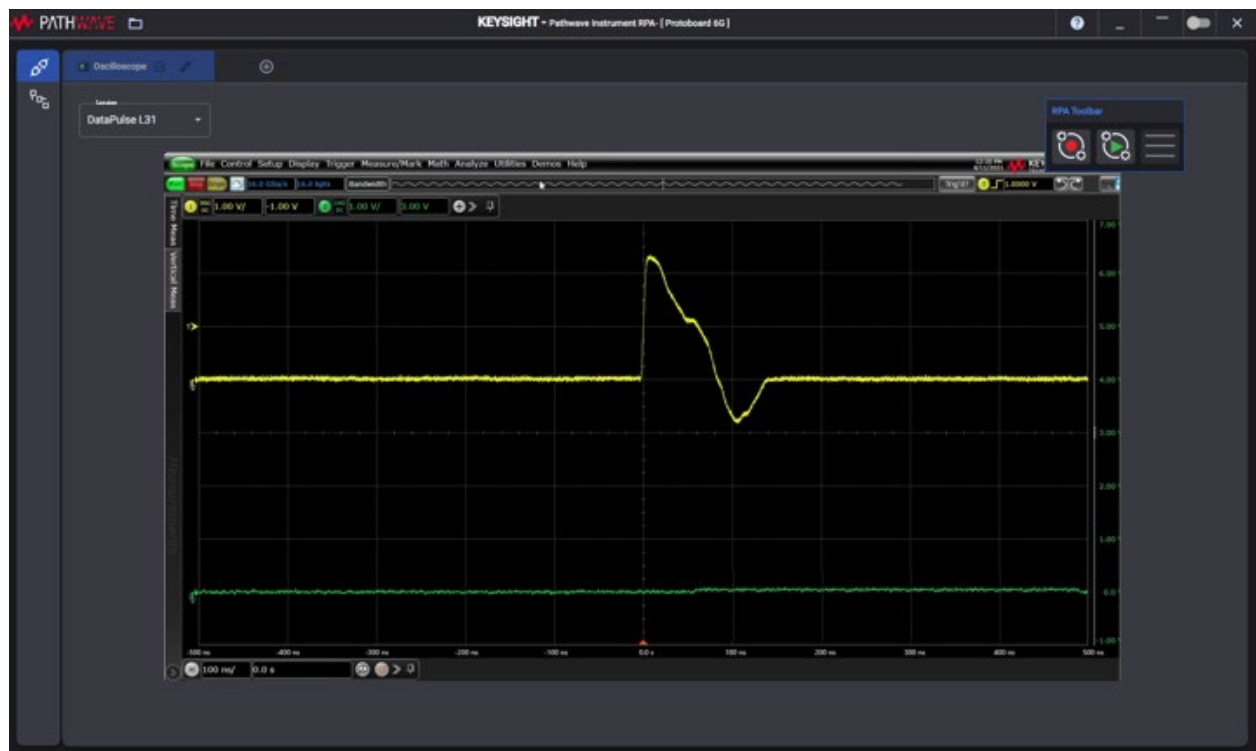

Figure 1. PathWave Instrument RPA User Interface
- PathWave Instrument RPA provides a simple and intuitive user interface to record and playback users' mouse and keyboard operations (Figure 1)